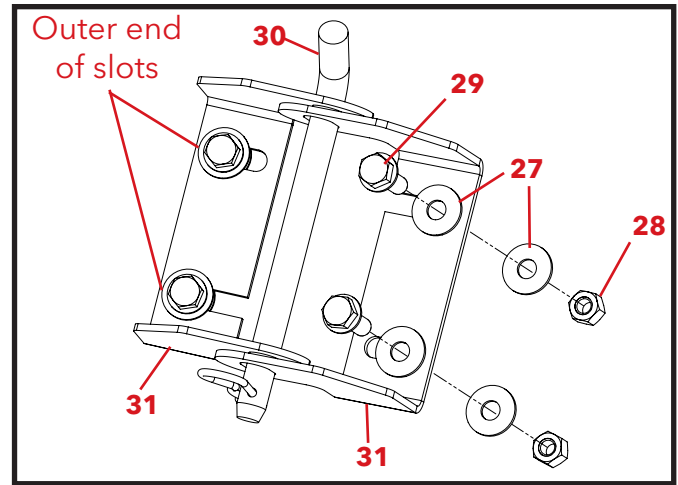

Figure 9
With the pin inserted into both brackets, align the pin directly above the interlocking corner of the factory extension panels. Use slots in the brackets to reference where holes will need to be drilled. Use an 3/8" diameter drill bit and electric drill to drill (4) holes through the extension panels. See figure 9.
Fasten the safety lock brackets to the extension panels using the (4) 5/16" x 1" flange bolts, (8) 5/16" flat washers, and (4) 5/16" nylon lock nuts. Make sure to leave enough slack in the bolts to allow the brackets to slide. See figure 9.